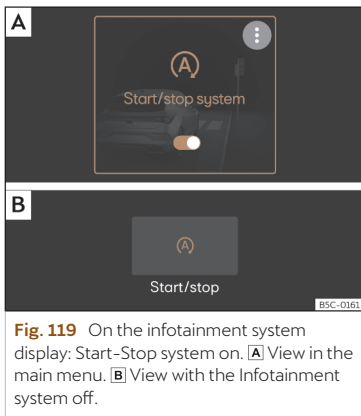

Fig. 119 On the infotainment system display: Start-Stop system on. [A] View in the main menu. [B] View with the Infotainment system off.
>>> **Fig. 119** the system is on and will stop and start. When the symbol (A) appears in white the system is off.